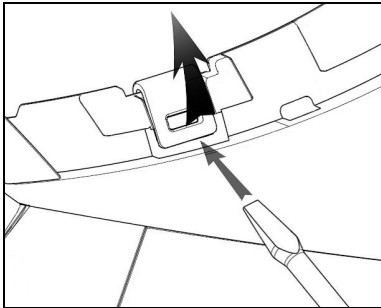

Fig. 18
- Unhook the right and the left clips from the shell, levering upward using a flat head screw (or a similar tool), as shown in figure 18.